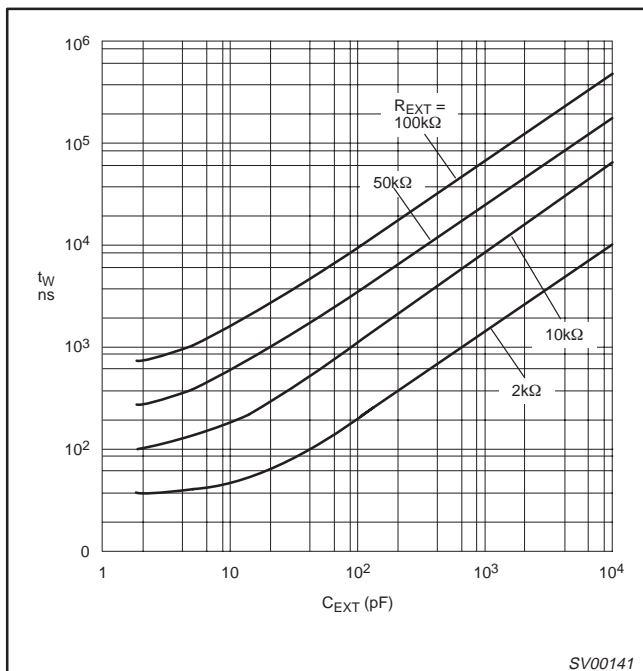

Figure 5. Typical output pulse width as a function of the external capacitor values at $V_{CC} = 3.3\text{V}$ and $T_{amb} = 25^\circ\text{C}$.
- For other R_{EXT} and C_{EXT} combinations see Figure 5.